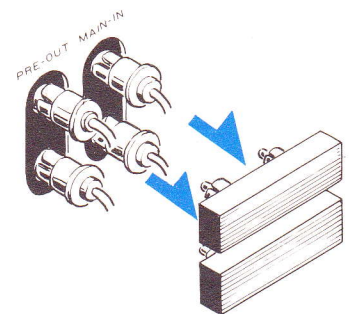

Fig. 13
1. Remove the PRE OUT/MAIN IN plugs on the rear panel of the SX-828 (Fig. 13).